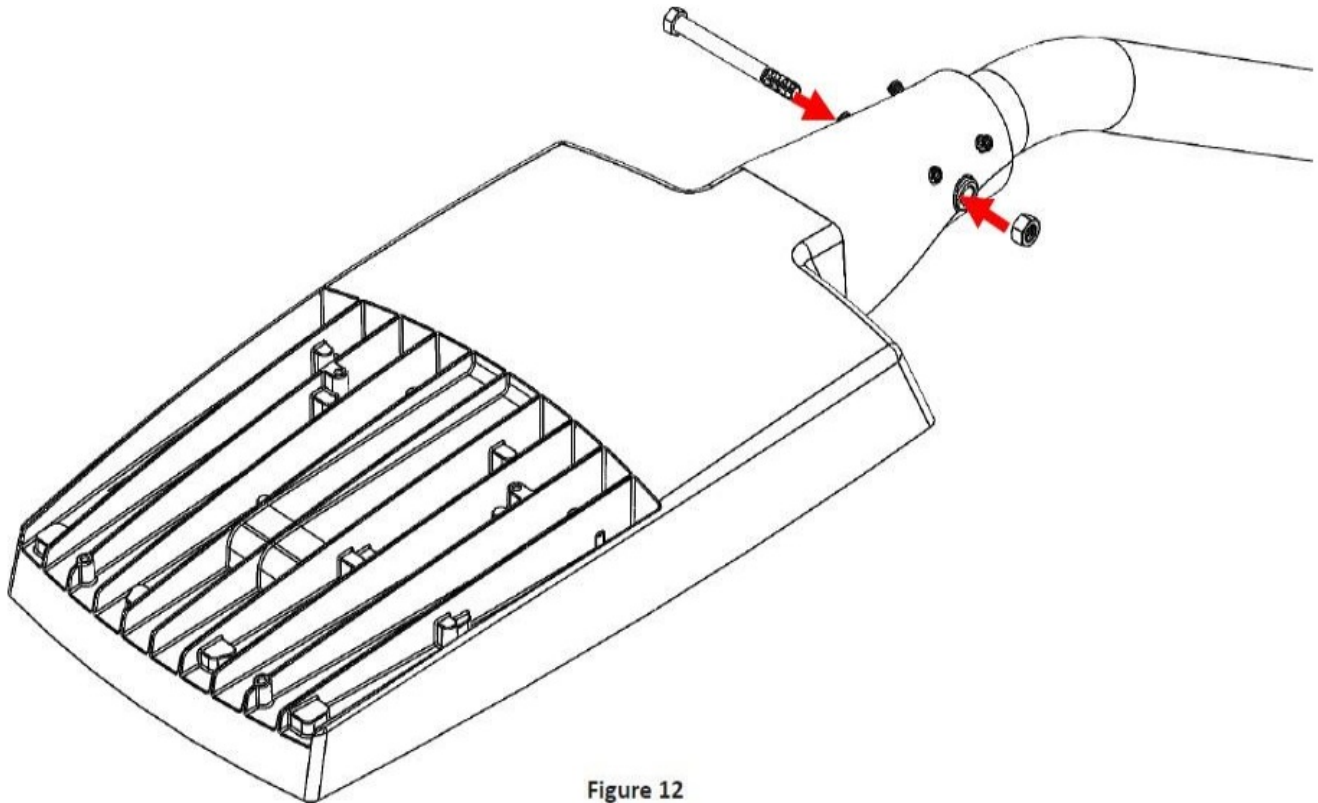

Figure 12
9. Reorient the luminaire to the desired position on the tenon and Insert the provided 7/16"-14 x 4-1/2" bolt through the Mast Arm Mount drill a 1/2" Ø hole on the tenon and place the provided 7/16" nut onto the bolt (see figure 12) and tighten securely to 45-50 ft-lbs.
10. Evenly tighten the Six (6) 3/8-16 UNC Mast Arm Set Bolts while maintaining the correct position of the luminaire to 13 ft-lbs.